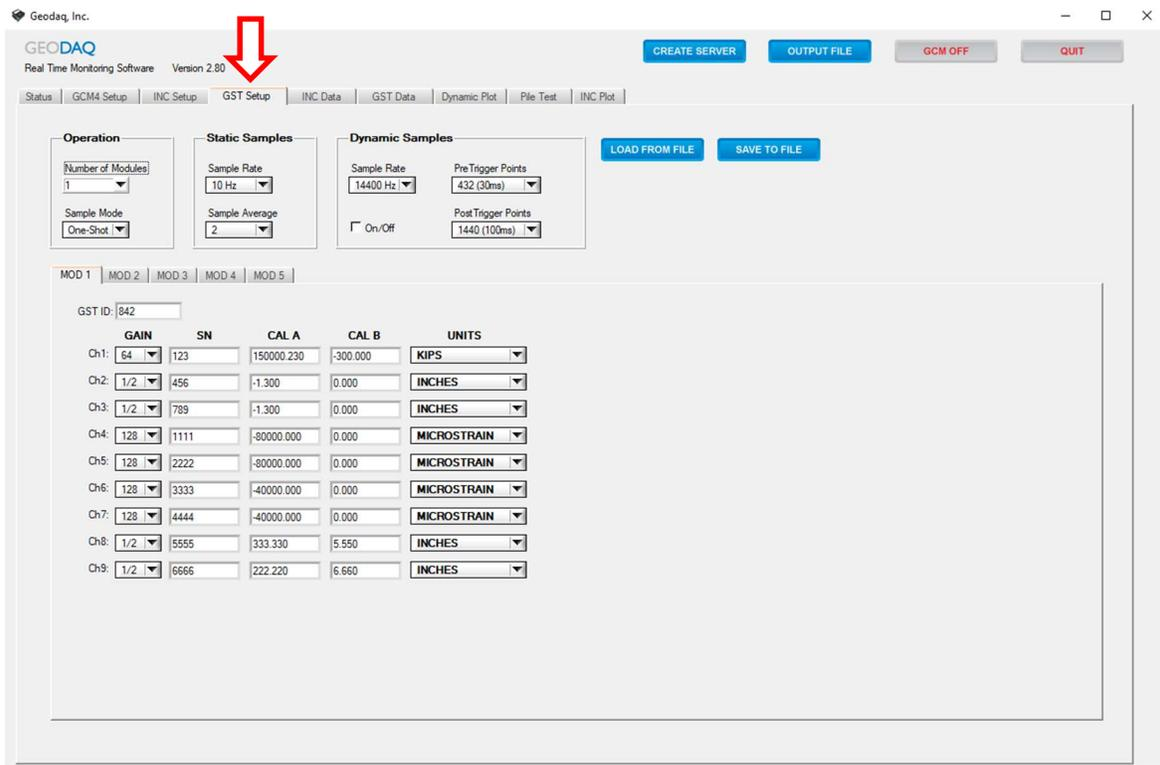

Figure 7 – GST Setup
The pile load test application collects data from one or more GST modules. Each GST module can acquire readings from seven (7) differential or single-ended inputs plus two (2) channels for single-ended inputs. Additional sensors or transducers can be monitored by adding GST modules to the network. First, select the “GST Setup” TAB shown in Figure 7. You can configure each GST manually or recall setup information from a previously saved file.